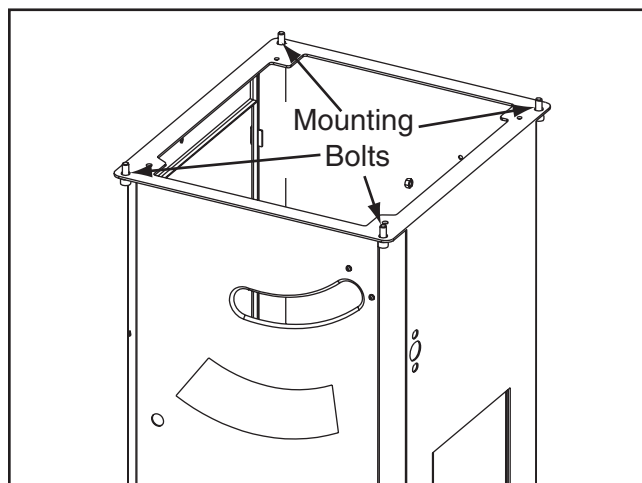

Figure 112. Table mounting bolts.
6. To adjust the table, loosen the four cap screws in the table mounting locations (see **Figure 112**) and slightly tap the table in the needed direction. Repeat **Steps 2–5** until the blade and miter slot are parallel.